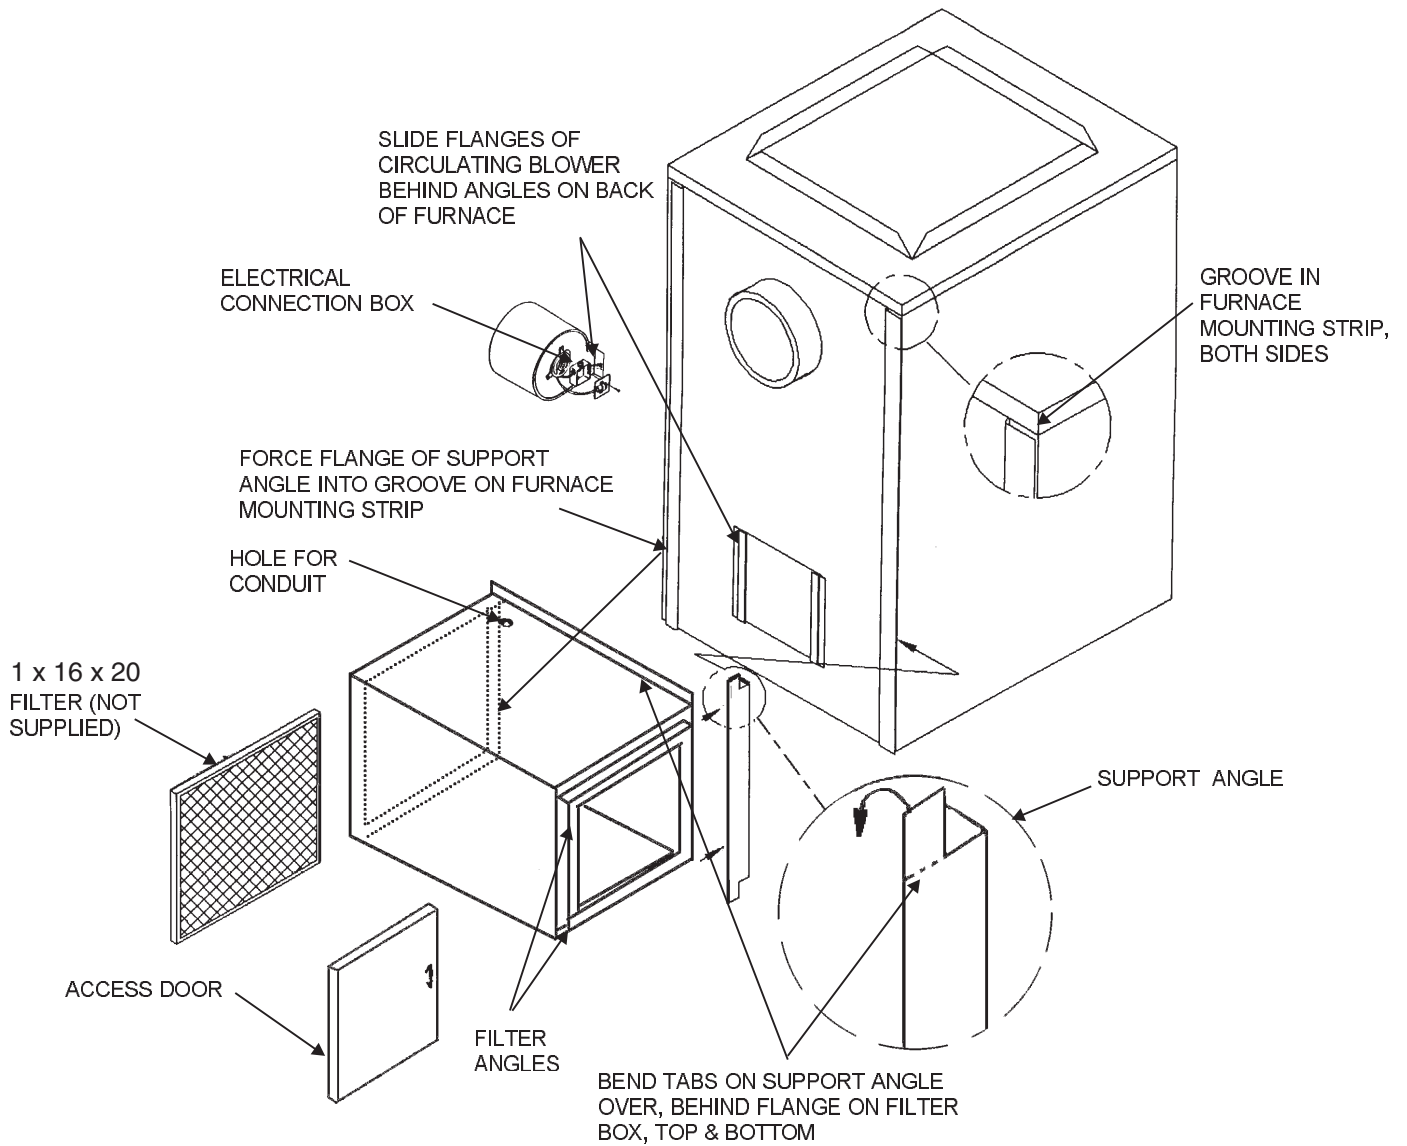

FIGURE 21 INSTALL CIRCULATING BLOWER AND FILTER
The flanges on the circulating blower simply slide behind the angle mounts welded to the rear of the furnace. Slide in from the top side, figure 21.
2. Find two factory shipped support angles. Force support angle sides without tabs into the groove of the mounting strip on both rear sides of the furnace. Position at correct height to accept filter box, figure 21.